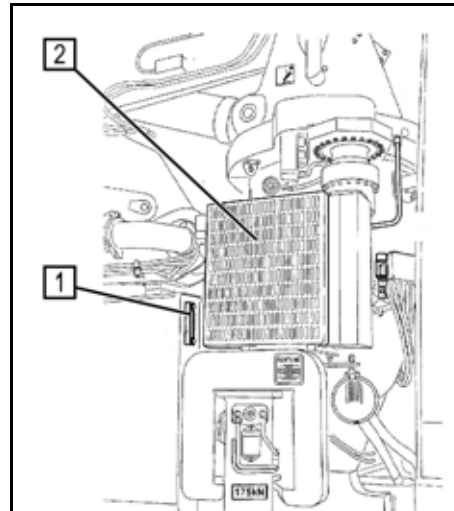

Fig. 50 Oil box
- Check the oil level of the hydraulic oil box on the inspection glass (1) (Fig. 50 Oil box).
When the oil is cold, the oil level indicator of the hydraulic oil tank inspection glass (Fig. 50 Oil box) must be located between the "Min" and "Max" marking.
Caption (Fig. 50 Oil box)